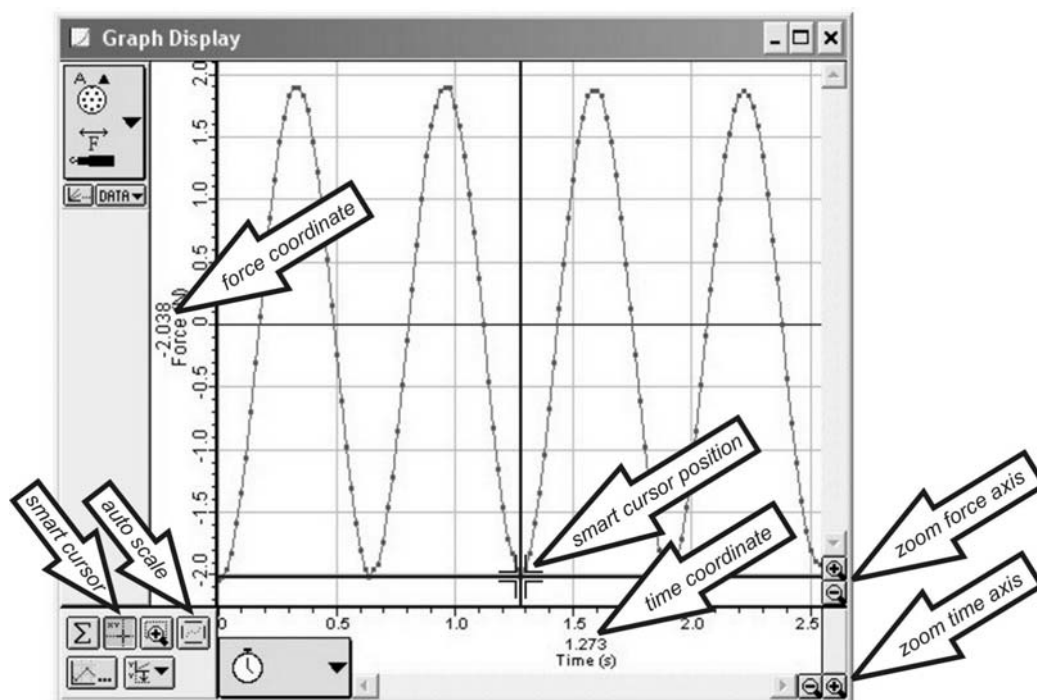

Figure 9: Recorded oscillations as displayed in the Graph Window of the program.
Maximise the Graph Window and click the autoscale button in it - see **figure 9**. The graph displays how the restoring force of the spring, F_R (the dependent variable), changed with time, t (the independent variable).
Click on the smart cursor in the Graph Window - **figure 9** - and move it around in the graph area. Note how the force and time coordinates of the cursor are displayed next to the Time(s) and Force (N) axis labels of the graphs - also indicated in **figure 9**.